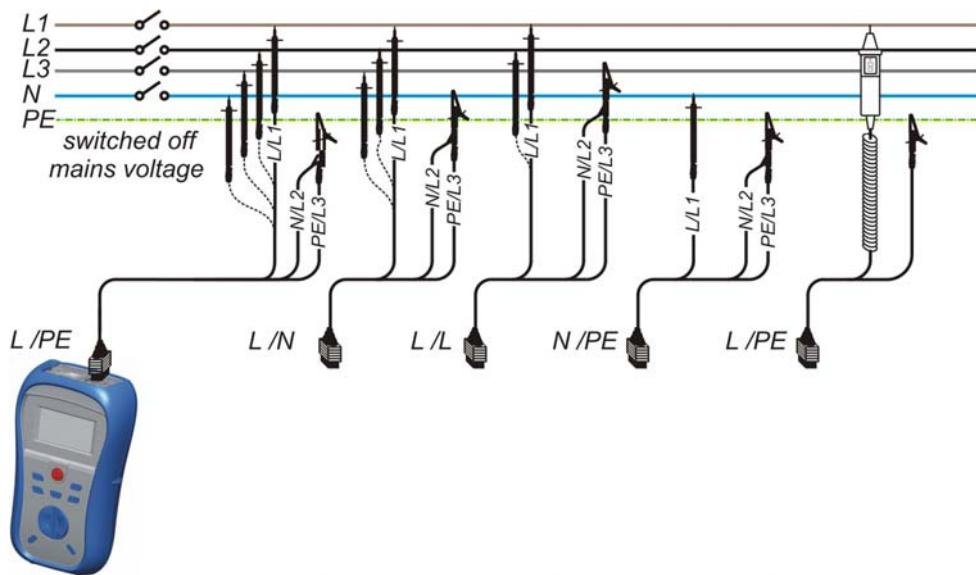

Figure 5.9: Connections for insulation measurement
- **Connect** test cable to the instrument and to the item to be tested (see Fig. 5.9).